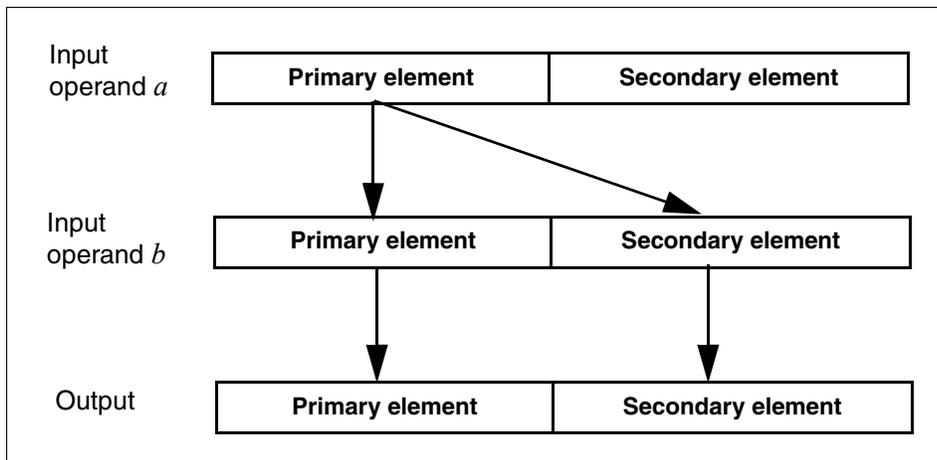

Figure 4-3 Copy-primary operations
*Copy-primary operations* perform SIMD computation between the corresponding primary and secondary elements of two input operands, where the primary element of the first operand is replicated to the secondary element. As an example, Figure 4-3 illustrates how a cross-primary multiply operation is performed.